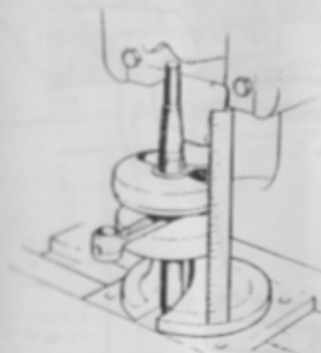

Fig. 19 Using steel rule to align crankcheeks prior to final assembly.
- 8 Position the top crankcheek over the crankpin, visually aligning the two crankcheeks and the edge of the cutaway areas (see Fig. 19).